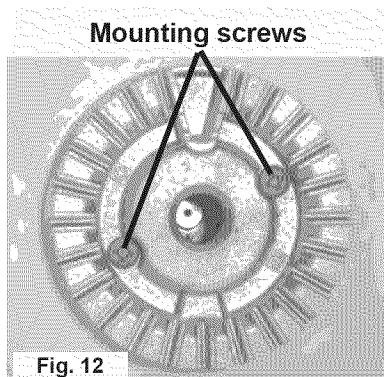

Fig. 12
- If the opening in the burner is too small to allow removal of the orifice, remove the burner as follows: Remove 2 screws using #1 square tip driver and remove Burner Heads (Figs 12 ). **NOTE - Some models may have 3/16" hex head screws instead of square drive screws.**